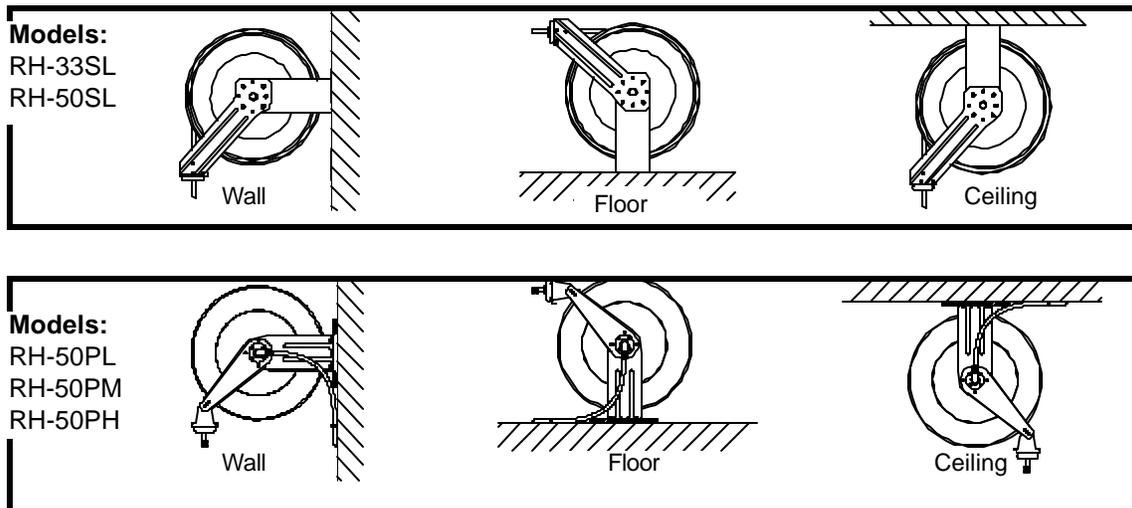

Fig. 1
2. The reel is supplied with a loose guide roller bracket. The bracket position may be changed depending on the reel mounting position (Fig. 1 shows the typical mounting positions). If bracket position needs to be changed do the following: